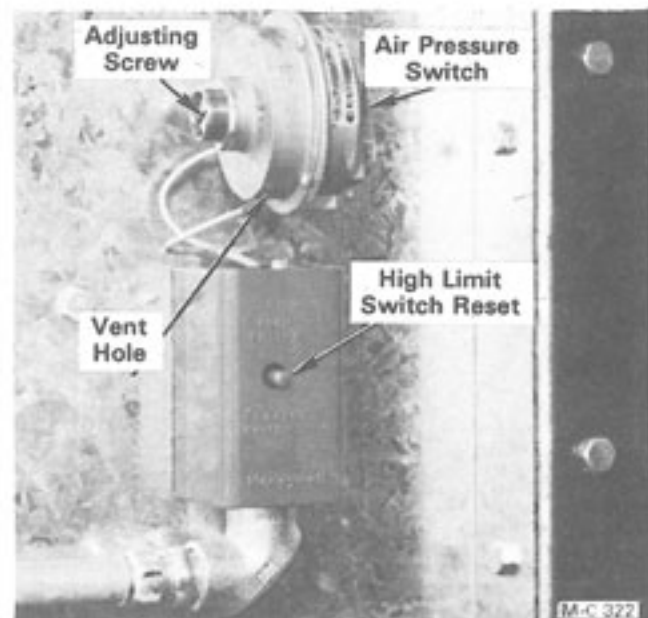
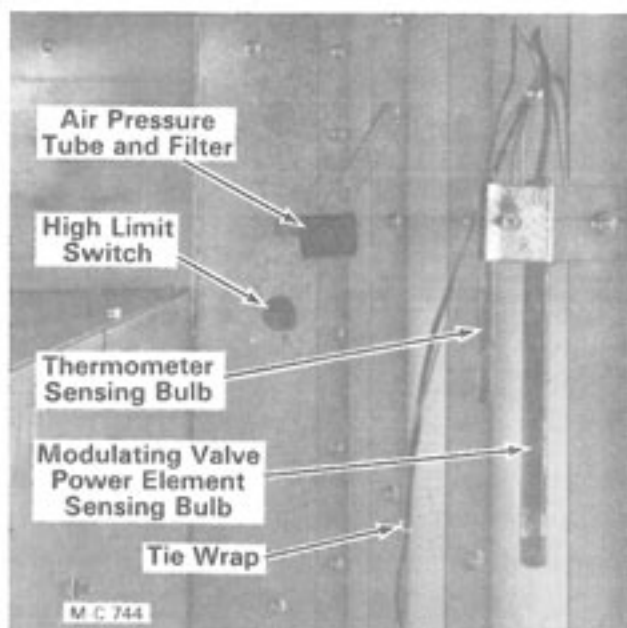

Figure 4 - Nonadjustable High Limit Switch
Figure 5
6. Flip the control circuit toggle switch ON. The control circuit ON light and high limit lights will be on. If the high limit light(s) are not on, push the reset button on the high limit switch, see Figure 4.
1. There is an air pressure switch for each heat chamber, see Figure 4. The air pressure switch senses the static air pressure in the heat chamber when the dryer is full of grain and the fan is running. If the static air pressure drops because of fan failure, the air pressure switch opens stopping current flow to the ignition switch. The gas solenoid valves will close and the burner will shut down.
NOTE: If the light does not come on, remove the air pressure switch and check to be sure the $\frac{1}{8}$ " vent hole in the bottom of the air pressure switch is open, see Figure 4. Also check for an obstruction in the air pressure tube and filter, see Figure 5.
1. Remove the plastic cap on the air pressure switch. The slotted screw is the adjusting screw, see Figure 4.